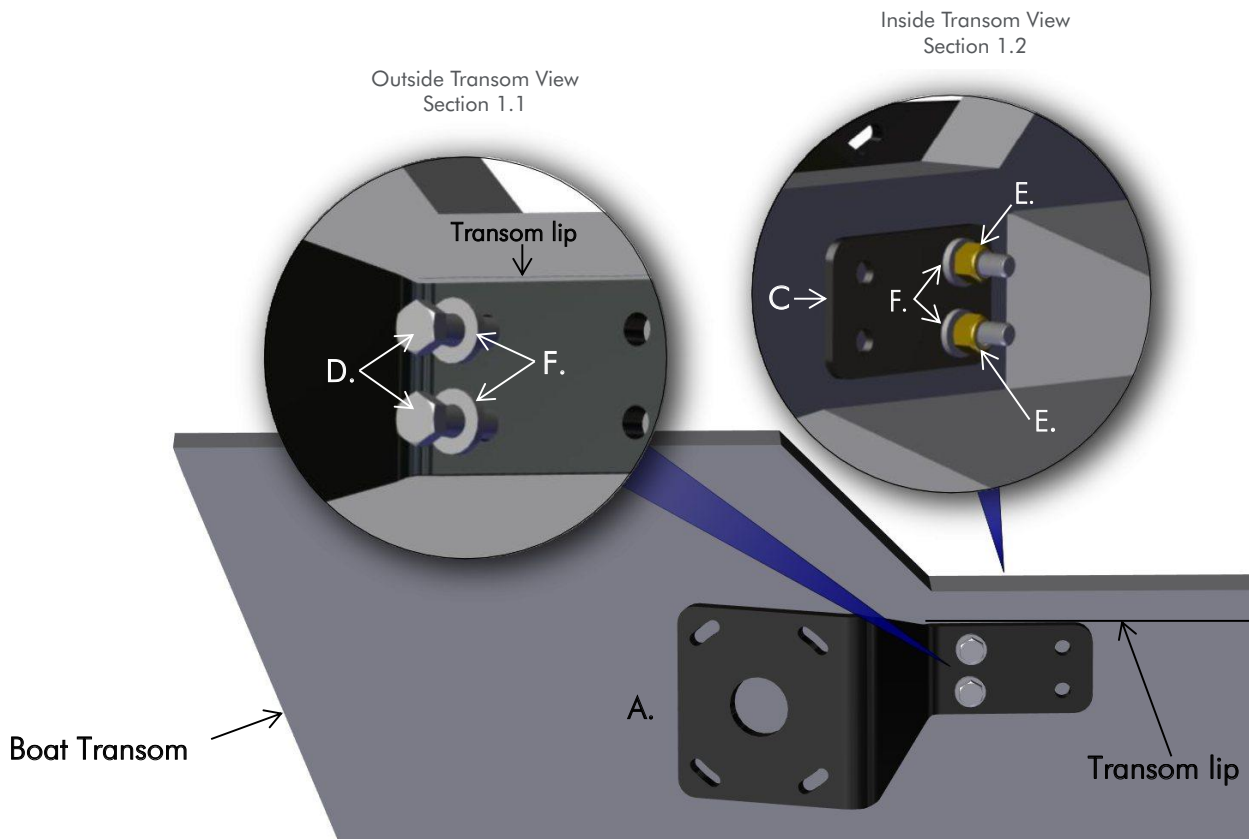

Figure 1
**STEP 1.** Place bracket (A) up against the outer lip of rub rail as illustrated and mark the hole locations. **FIG. 1**
**STEP 3.** Place heavy thunder washers (F) onto bolts (D).
**STEP 4.** With adapter plate (A) in position install two transom bracket bolts (D). **FIG. 1 Section 1.1**
**STEP 5.** Place backer plate (C) onto transom bolts (D) followed by a thunder washer (F) and thread lock nut (E) onto each bolt and tighten. **FIG. 1 Section 1.2**